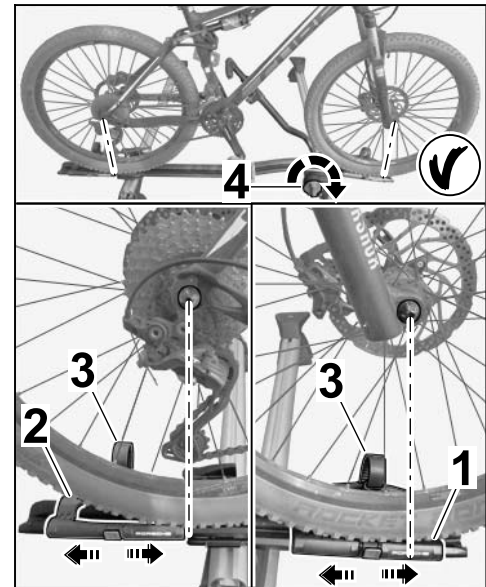

Figure 15
5.2.4 Align wheel mount (front/rear) vertically under the wheel hubs of the front/rear wheel ( $\Rightarrow$  *Figure 15*).
5.2.5 Turn rotary knob ( $\Rightarrow$  *Figure 15 -4-*) as far as possible to the right.